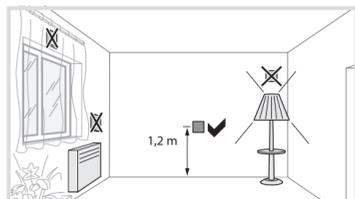

Figure 7: Installation location of the motion detectors
- Avoid sources of interference in the detection area (Fig. 4). Sources of interference, e.g. heating elements, ventilation systems, air conditioners and lamps that are cooling down can cause undesired switching (Fig. 7).